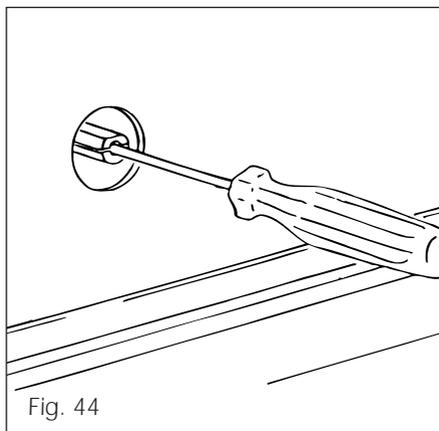

Fig. 44
- With a small flat screwdriver turn the screw (fig. 44) to the correct regulation.